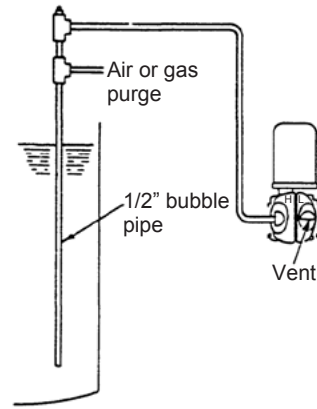

Figure 4.20 Air or Gas Purge Using Bubble Pipe
- (2) Air or Gas Purge (Refer to Figure 4.20, 4.21)